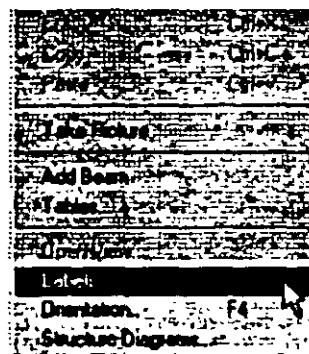

Figure 5.12
10. In order to display the *node* and *beam numbers*, right click anywhere within the drawing area. In the pop-up menu that appears, choose *Labels* as shown in Figure 5.12.